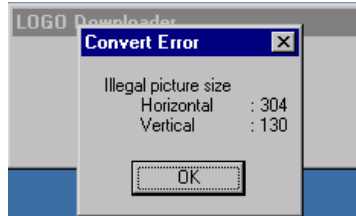

Figure 14
1. Error Display when the image data does not meet specifications. (Fig. 14)